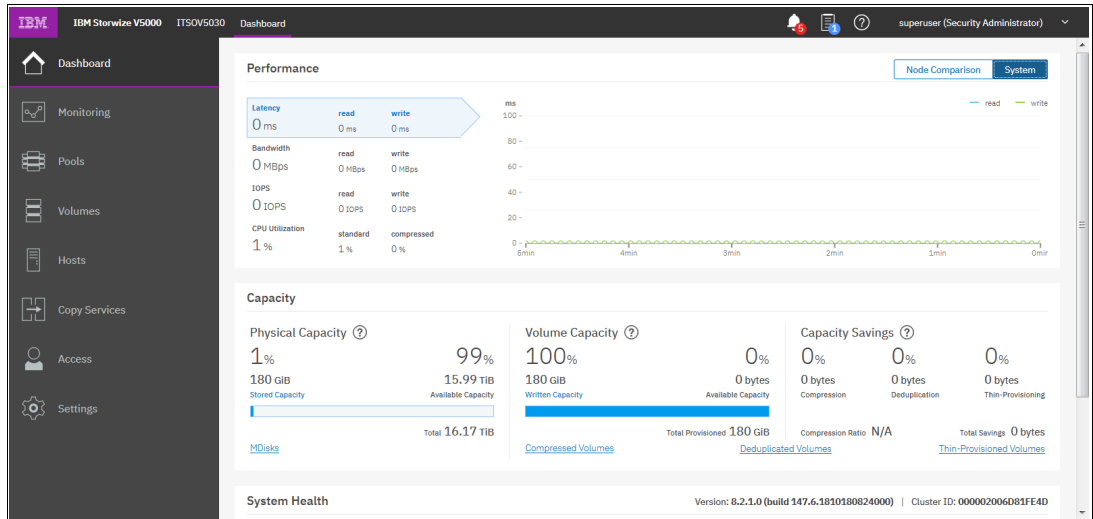

Figure 3-2 A first view
- After a successful login, the IBM Spectrum Virtualize System pane displays the Dashboard with all relevant details of your system, as shown in Figure 3-2.